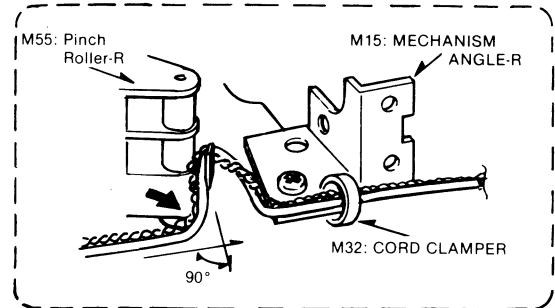

Fig. 2
Button Retainer Plate Fig. 2
3. Trace the record/playback head lead-wire as follows (Refer to Fig. 2):
- At this time, hook the head wire to the clamber of the pinch roller R, and press the head wire in the direction of the arrow as shown in Fig. 2 so that it is bent approximately 90 degrees. Then secure the wire on the mechanism unit using a cord clamber.